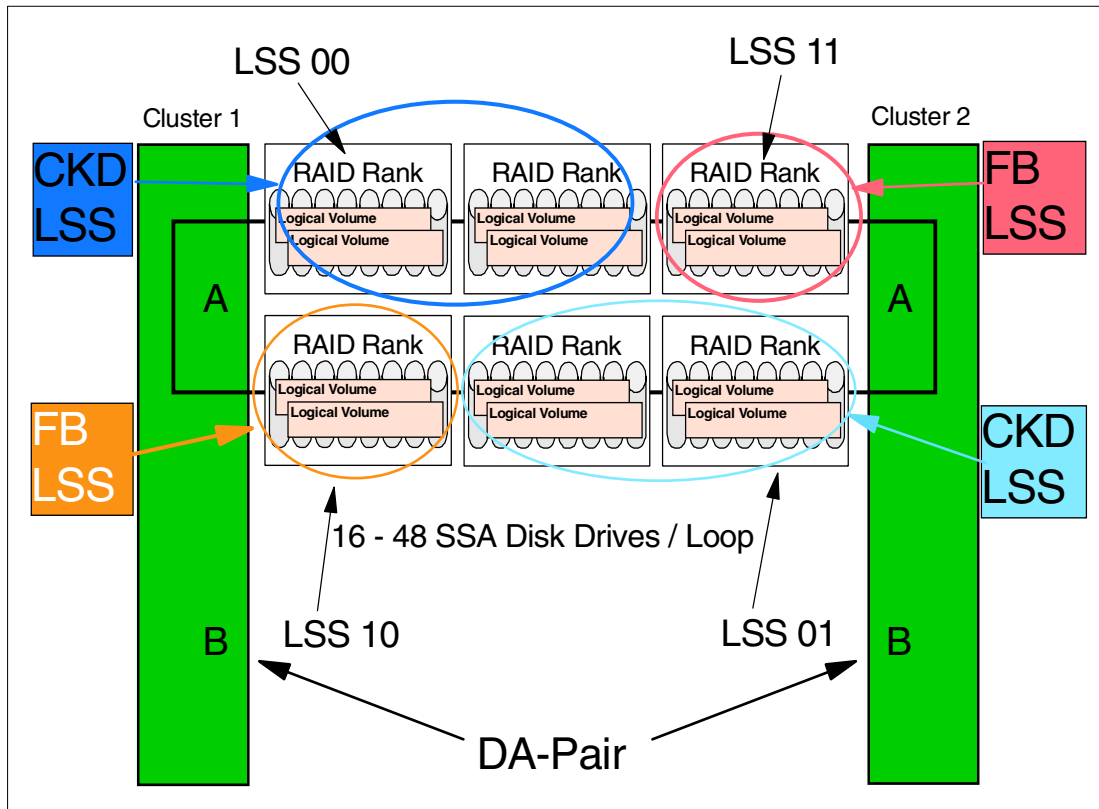

Figure 4-32 LSS ranks assignment
In the example in Figure 4-32, you can see how a final logical configuration of a loop may look. In this case, loop A has the maximum possible (48) drives installed. The loop has been configured with six RAID 5 ranks (RAID 10 ranks could also have been used). A single DA pair loop can have up to four LSSs assigned to it: two CKD LSSs and two FB LSSs. Assuming that this example shows the first DA pair, then the LSSs defined are: